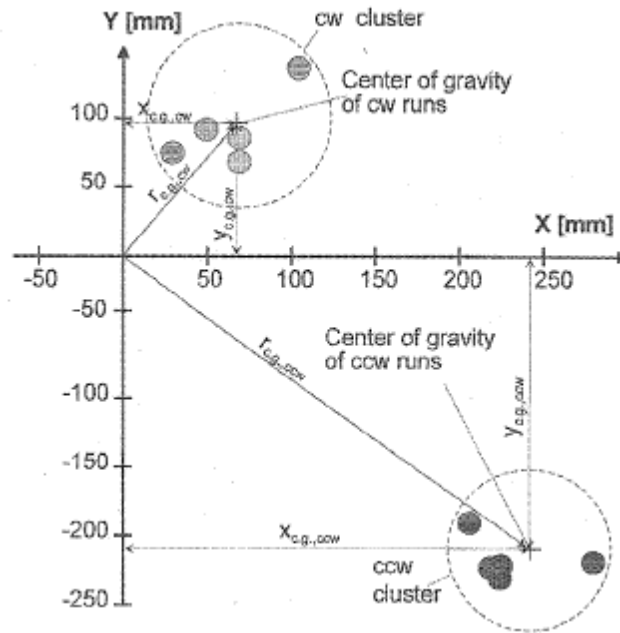

Figure 3: Odometry error on an uncalibrated vehicle
7. If this data is plotted on an x-y scatter plot, there will be two distinct quadrants, one for the cw runs and one for the ccw runs (see Figure 3).
8. You should include the table of data for the 10 square traversals (cw, ccw) and the graph similar to Figure 3 for your data in the lab memo submission.
3. The center of gravity for each run is also shown in Figure 3. The distribution of the readings within each quadrant is a result of nonsystematic errors. The asymmetry in the centers of gravity between the cw and ccw runs is due to two types of systematic errors. Type A errors are due to an increase or decrease in robot rotation for both cw and ccw runs. Type B errors are due to an increase or decrease in robot rotation for the cw run and the opposite effect happens for the ccw run. Type A errors occur because of uncertainty in the wheelbase measurement while Type B errors because of unequal wheel diameters. A single numeric value that expresses the odometric accuracy for systematic errors can be found from
4. The radius, r , for each center of gravity is also shown on the Figure 3. Find the radii for your data.